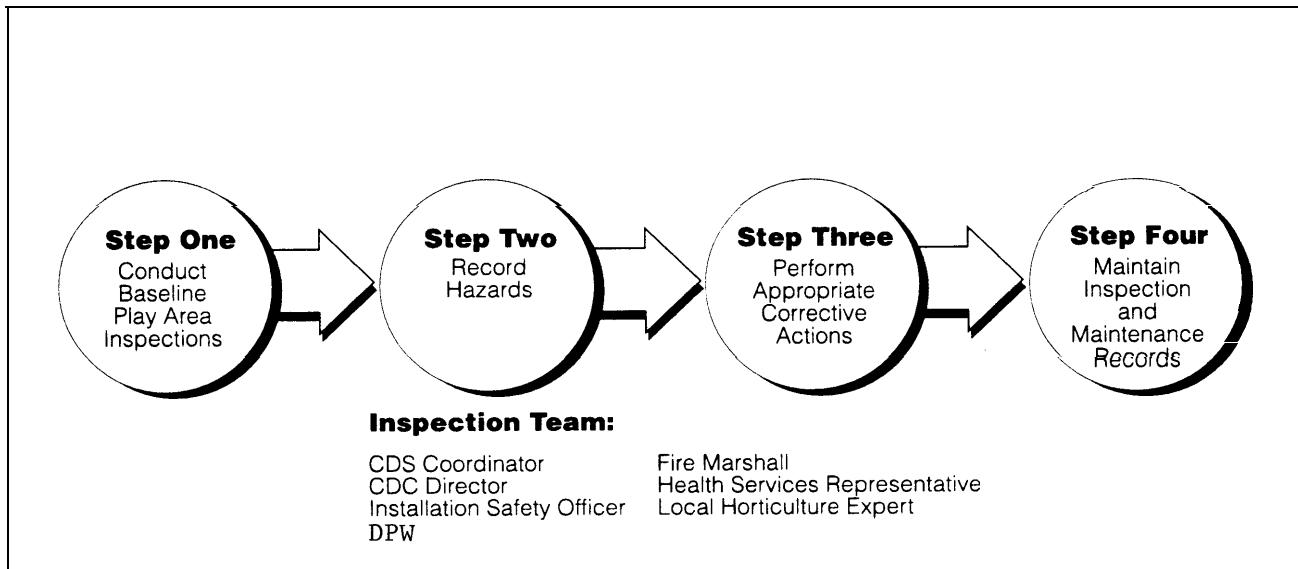

Figure 1-4: Phase two - identify current play area conditions.
b. *Phase Two, Identify Current Play Area Conditions.* An inspection team identifies current play area conditions and establishes a baseline. Figure 1-4 illustrates this phase and identifies members of the play area inspection team. This phase consists of four steps: